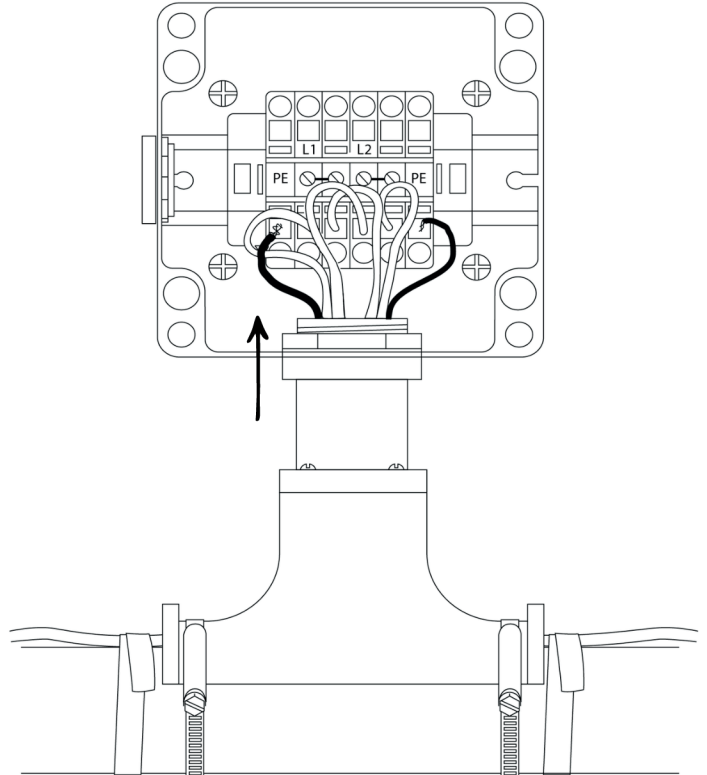

Figure 4.
16. Insert the cables through the lower entry of the junction box and tightly secure the junction box to the base using the provided lock ring. (See figure 4). Connect the heating cables and ground braid to the terminal block as shown. (If terminal block is removed, wire nuts may be used to terminate the heater cables to incoming power supply and ground wires.)